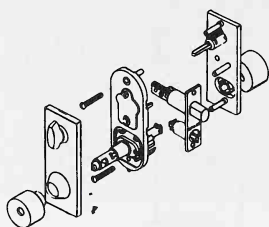

Fig. 18-39.
8. Disassemble the lock. Remove the inside knob and lift off the outside mechanism (Fig. 18-39).